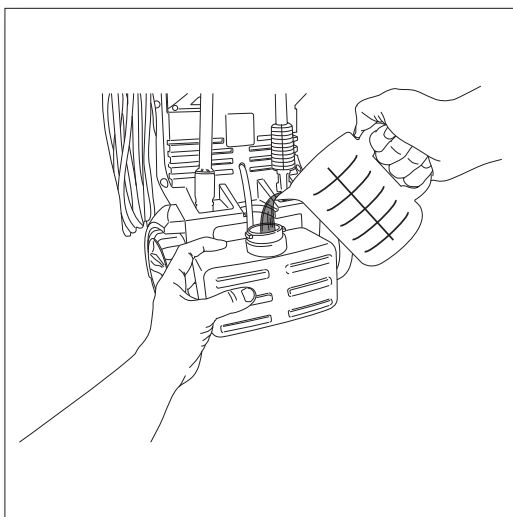
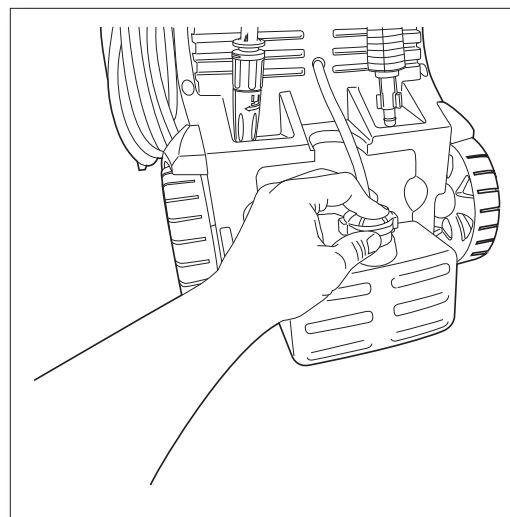

Fig. 11
Fig. 12
- When using the detergent, fill it with a properly formulated detergent or cleaner with water ratio according to instructions on the container (**Fig. 11**). The detergent tank comes with a straw which is fitted into the screw-on top. If you don't see the straw, look inside the bottle and attach it to the screw-on top (**Fig. 12**).